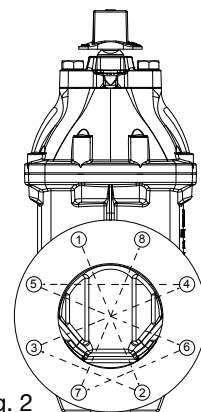

Fig. 2
9. Tighten the bolts and nuts in the crossover method shown in fig. 2, to load the pipe and valve evenly and prevent stress on the joints.